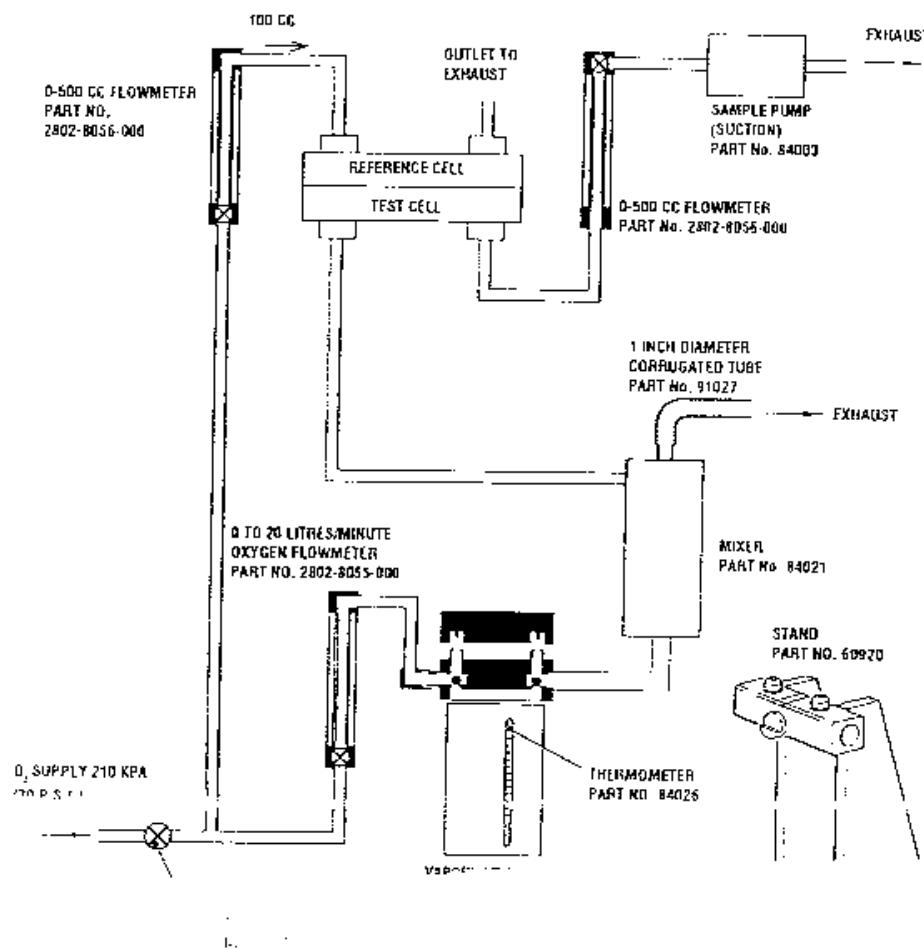

Fig. 5.2 Testing Circuit Arrangement
### 5.3 Preparing The Vaporizer (Fig. 5.2)
3. Set up the test equipment as shown in Fig. 5.2, turn the vaporizer dial to the OFF position and connect the vaporizer into the circuit.